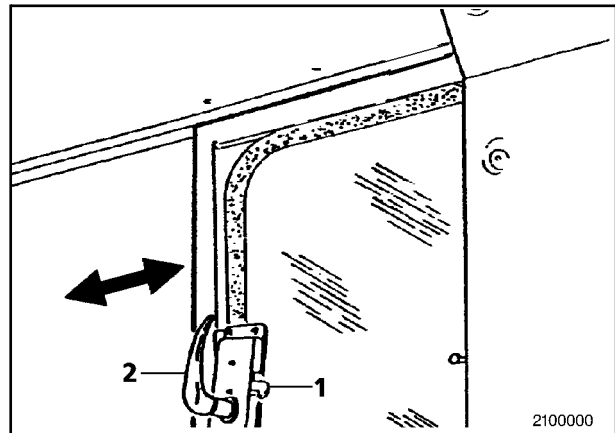

Fig. 2
- Using the door handle, pull the door open to its limit position until the hook (1, Fig. 2) engages.
The door must be engaged when the driver enters the cab. There is otherwise the risk of the door closing again if the handle (2, Fig. 2) is used.